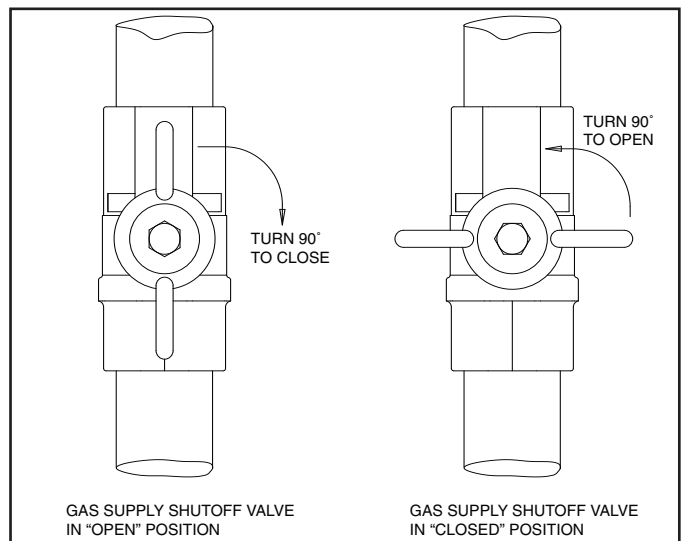

Figure 8.
5. Open the gas supply shut off valve, by turning the handle to be parallel to the gas piping. (See Figure 8).
6. Wait five (5) minutes to clear out any gas, then smell for gas, including near the floor. If you then smell gas, STOP! Follow "B" in the safety information above on this page. If you don't smell gas, go to next step.
3. Close the gas supply shut off valve, by turning the handle to be perpendicular to the gas piping. (See Figure 8).